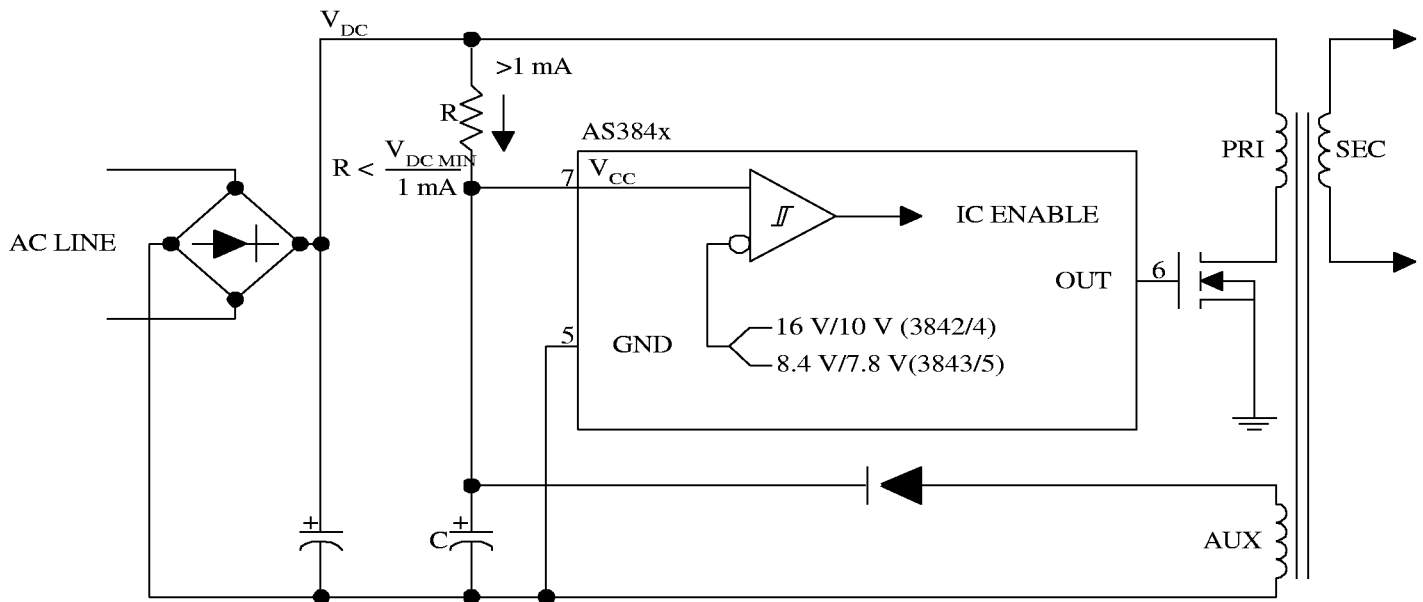

Figure 14. Bootstrap Circuit
The low quiescent current standby mode of the AS3842 allows “bootstrapping” ---a technique used in off-line converters to start the IC from the rectified AC line voltage initially, after which power to the IC is provided by an auxiliary winding off the power supply’s main transformer. Figure 14 shows a typical bootstrap circuit where capacitor (C) is charged via resistor (R) from the rectified AC line. When the voltage on the capacitor (V_{CC}) reaches the upper UVLO threshold, the IC (and hence, the power supply) turns on the voltage on C begins to quickly discharge due to the increased operating current. During this time, the auxiliary winding begins to supply the current necessary to run the IC. The capacitor must be sufficiently large to maintain a voltage greater than the lower UVLO threshold during start up. The value of R must be selected to provide greater than 1 mA of current at the minimum DC bus voltage ($R < V_{DCmin}/1 \text{ mA}$).